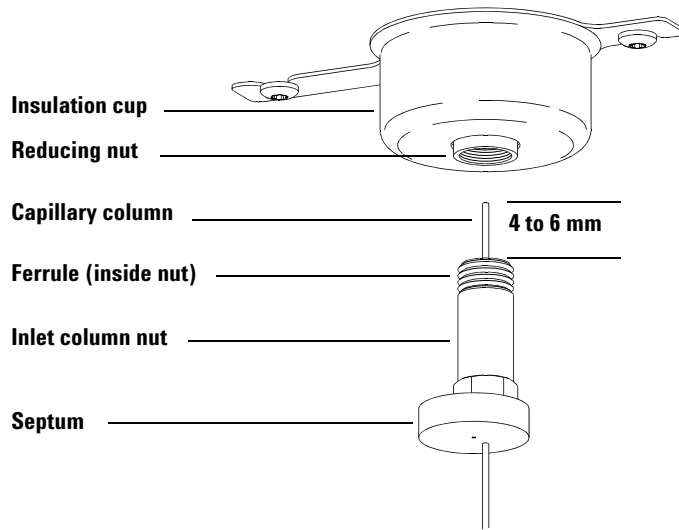

Figure 3 Installing a capillary column for a split/splitless inlet
- 2 Position the septum under the column nut so that the column extends 4 to 6 mm past the end of the ferrule (Figure 3).